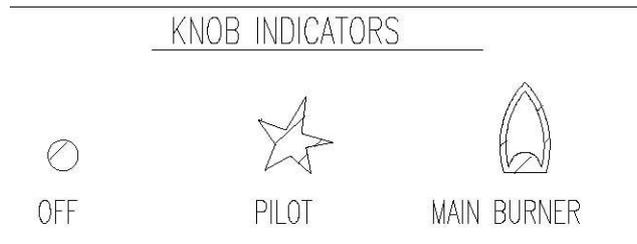

Fig 2.
2. Press the pilot knob in and turn anticlockwise to the Pilot position (see fig 2.)
6. When the pilot is lit, release the pilot control knob and turn fully anti-clockwise to the 'Main Burner' position (see fig 2).